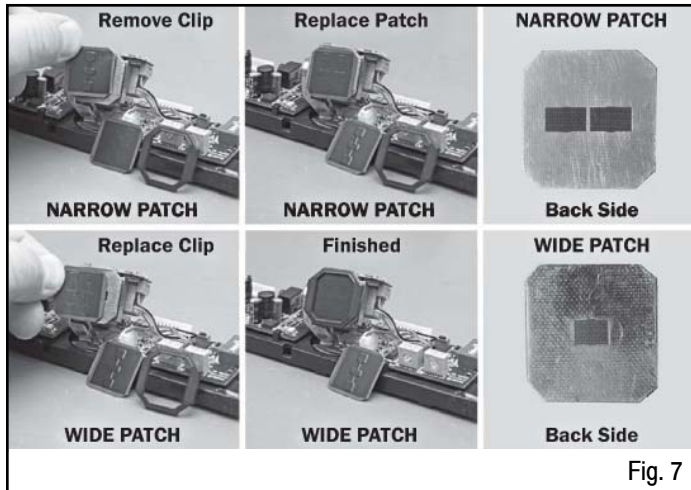

Fig. 7
3. Select and install patch antenna as shown (Fig. 7). The wide antenna is installed at factory